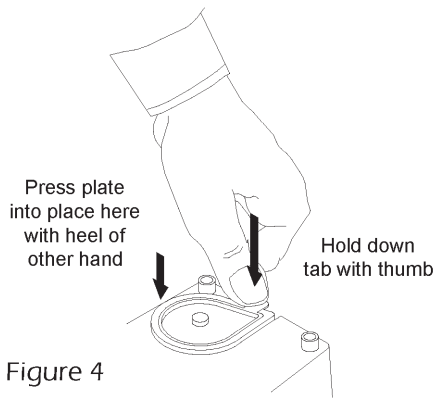

Figure 4
- Place the tab of the baseplate into the slot of the reservoir base; hold the tab in place with the thumb and snap the cover into the reservoir with the heel of the hand; tap the cover with a plastic mallet if required to fully seat it. (Figure 4)